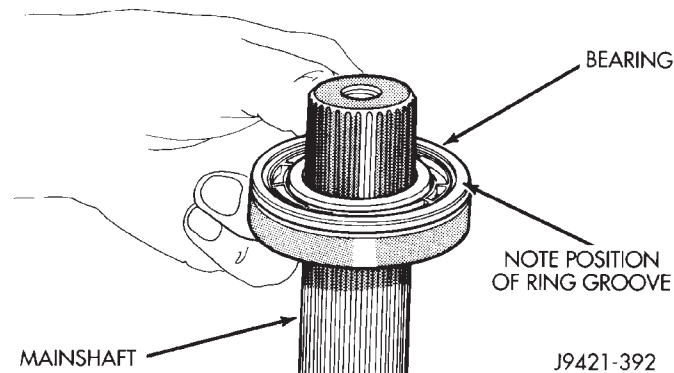

Fig. 29 Mainshaft Output Bearing Removal
(15) Remove output bearing from mainshaft. **Note position of snap ring groove in bearing for installation reference (Fig. 29).**